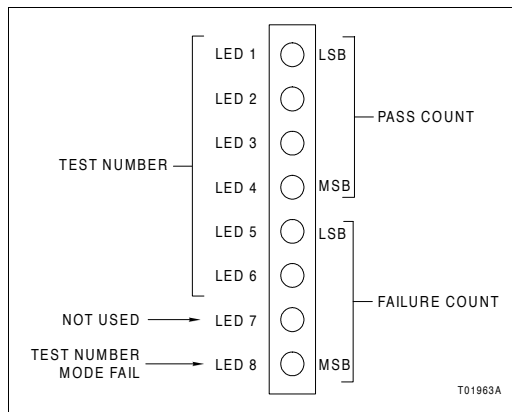

Figure PR16-1. Diagnostic Test LED Indications
- 7. Observe the front panel status indicators to determine if the test passed or failed (Fig. PR16-1). In general if a diagnostic test fails, replace the module. Table PR16-4 describes each test.
Test Number The test number display mode uses LEDs one through six to display the diagnostic test number and LED eight to display whether the test passed or failed (Fig. PR16-1). If a diagnostic test is successful, LEDs one through six display the diagnostic test number and LED eight does not illuminate. If a diagnostic test is not successful, LEDs one through six still display the diagnostic test number but LED eight will illuminate. LED seven is not used in test number display mode.
Pass/Fail Count The pass/fail display mode uses LEDs one through eight to display a combination of incrementing pass and fail counters (Fig. PR16-1). LEDs one through four display a binary count of the number of passed tests and LEDs five through eight display the number of failed tests.
- Disabled** If halt on error is disabled, the selected test runs repeatedly until the module is removed. Depending on the display mode, the status indicators will identify the test being run or will display a test count (Fig. PR16-1).